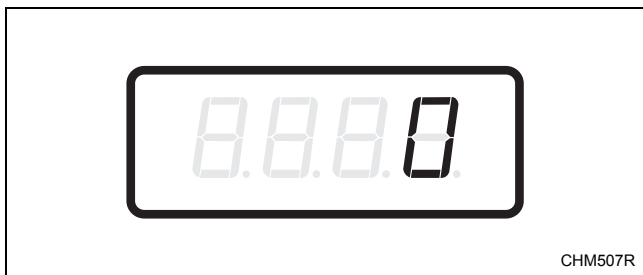

Figure 11
4. When “dEn1” appears in the display, press the START (enter) keypad. There are five digits in the Coin #1 Value. The fifth digit will appear in the display and will flash one second on, one second off. Refer to *Figure 11*.